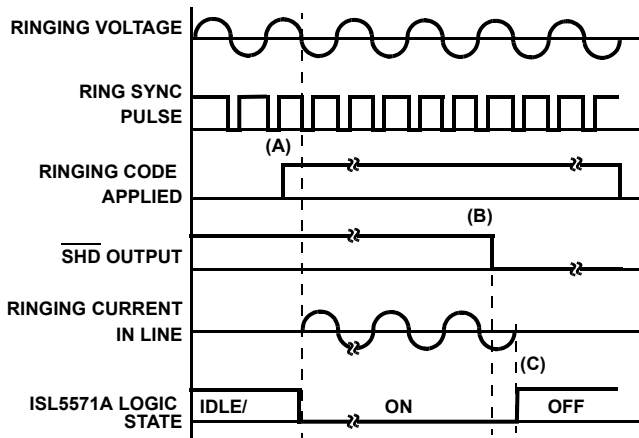

FIGURE 7. COEFFICIENT RAM OPERATION SCREEN
Figure 7 shows the sequence of events from ringing the phone to ring trip. The ISL5571A rings the phone when both the ringing code and ring sync pulse are present (A).  $\overline{\text{SHD}}$  is high at this point. When the subscriber goes off hook the SHD pin goes low and stays low until the ringing control code is removed (B). This prevents the  $\overline{\text{SHD}}$  output from pulsing after ring trip occurs. At the next zero current crossing of the ring signal, ring trip occurs and the ring relay releases the line to allow loop current to flow in the loop (C).